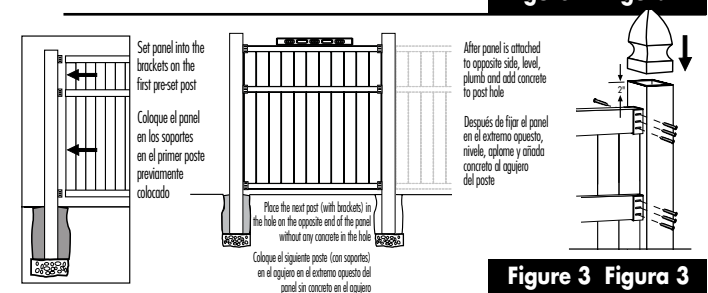

Figure 3 Figura 3
Measure the width of the fence panel (X) plus 1/2" for brackets, add the width of the post (Y). This is the general on center measurement for post hole location. It is highly recommended to dig enough holes to install 3-4 sections of fence at a time to ensure proper post hole placement (Figure 3).
- Set panel into the brackets on the first pre-set post (Figure 3)